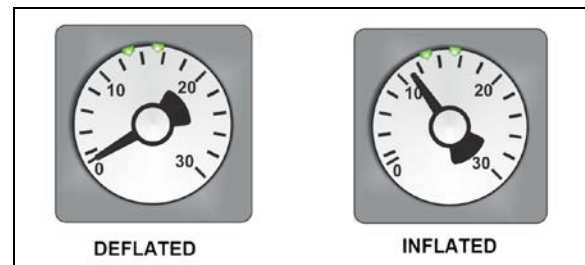

FIGURE 42: INFLATABLE SEAL PRESSURE GAGE
4. Finally, the inflatable seal can be re-inflated by turning the shut-off valve handle counterclockwise. Check the pressure gage on the inflatable seal regulator to see if the pressure increases to around 11 psi (Figure 42). Needle should be pointing between the two small green arrows on the dial.
on the inflatable seal regulator to see if the pressure is increasing to 11 psi (Figure 42).